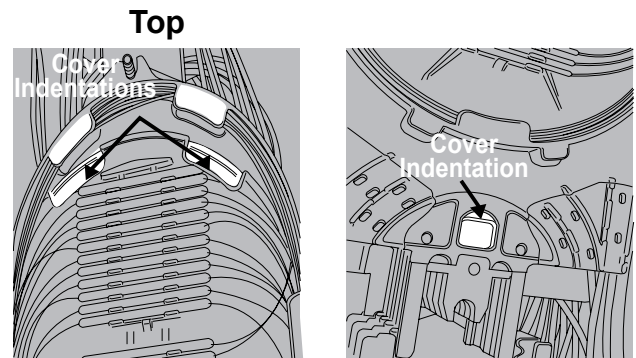

FIGURE 19
- Protect the spliced fibres by fitting a tray cover to each completed SLIDE-N-LOCK splice tray. For FibreGuard 800 & 650 closures, locate the front cover indentations between the tray tabs and friction-fit a larger third indentation into the bottom recess. (Figure 19)